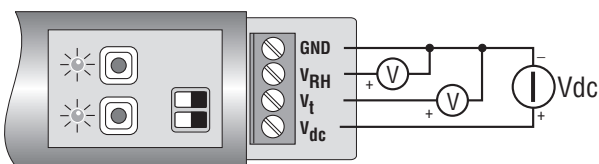
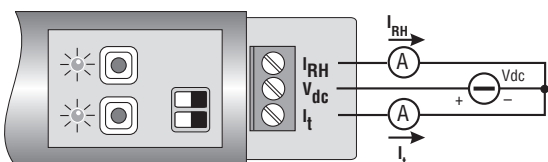

Fig. 5
Fig. 6
2. Connect the wires to provide the instrument with power supply, as shown in the connection diagrams (Fig. 5: HD9008TRR and Fig.6: HD9009TRR).